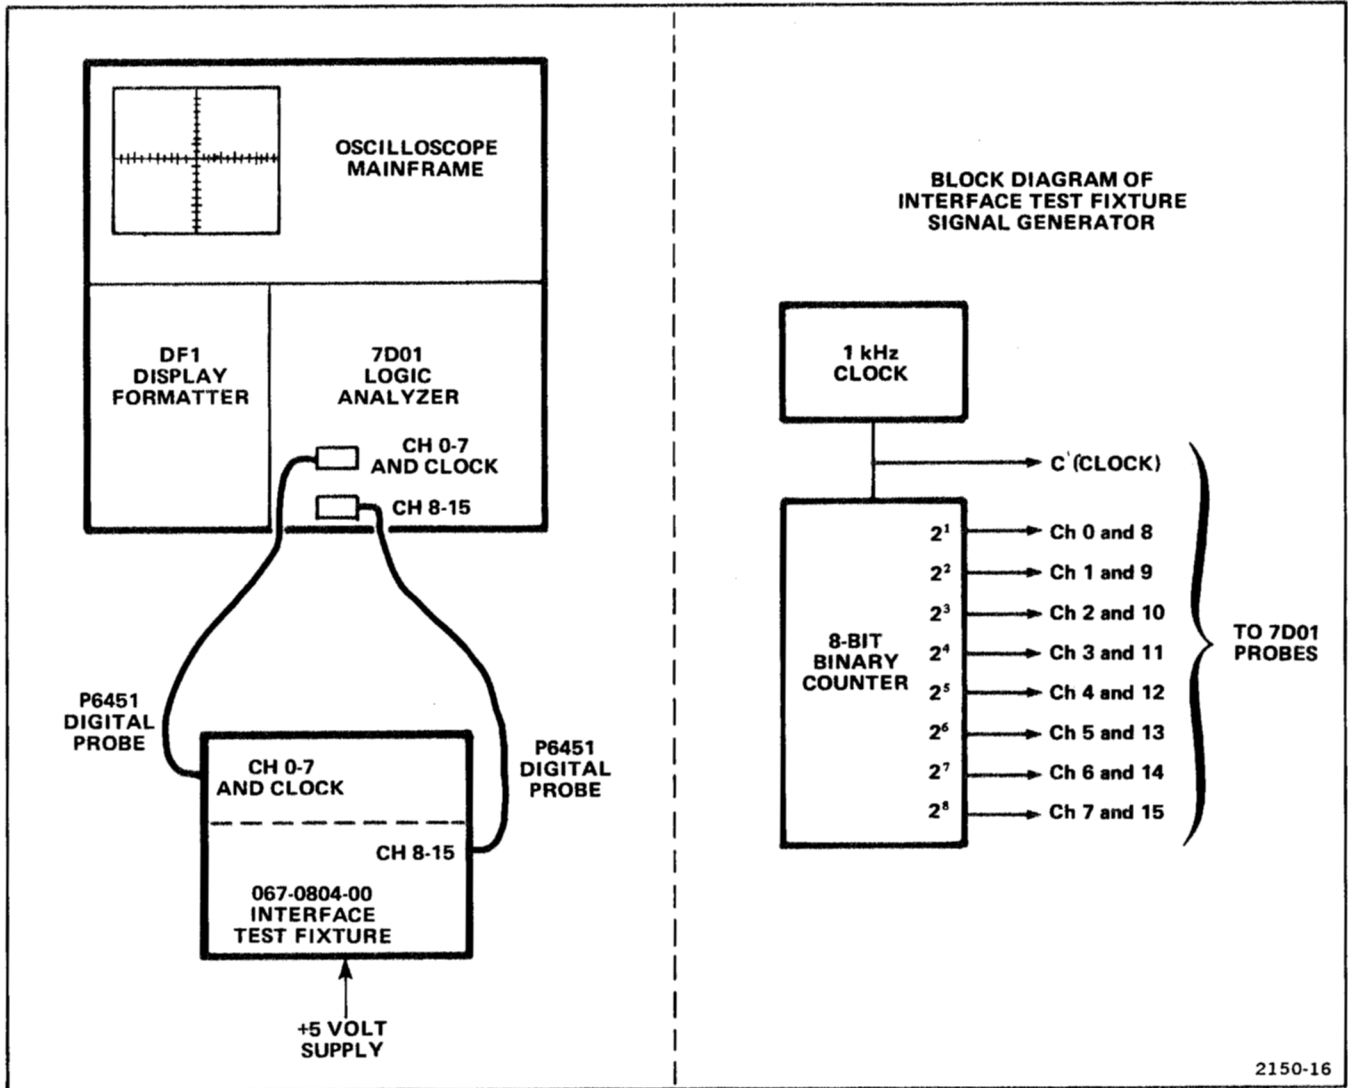

Figure 5-2. Test setup for Performance Check and Adjustment Procedure.
- Connect the Interface Test Fixture to the 7D01 as shown in Figure 5-2.